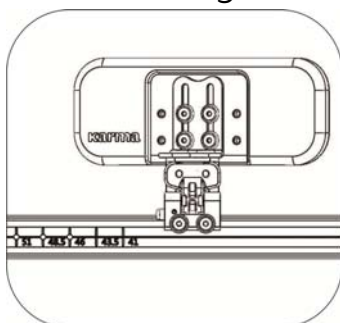

Figure 5-131
5.3.11.1 Hip support is shown as Figure 5-131